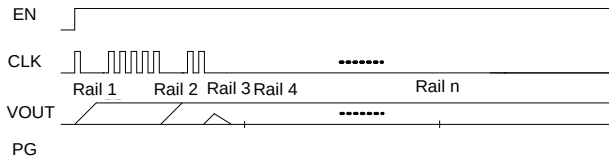

Figure 8: Soft Start during PMIC Error when CLK Pulls Down (CLK Pausing)
- If CLK_ON_ERROR_PAUSE_EN = 1, the initiator/target PMIC pulls the CLK pin down if any error occurs during any power rail's soft start (see Figure 8 on page 19).